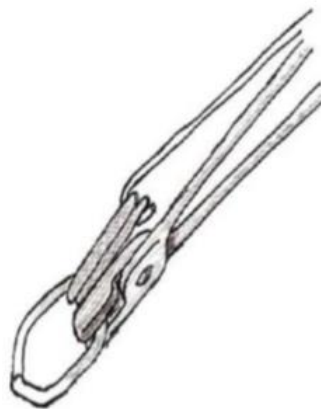

Figure 14: Holding the three links together for welding
6. Hold the assembled links using a simple hook to hold the two completed links out of the fire and out of the way while welding the third link. You can easily grasp the hook and tongs together in one hand, making this so much easier! (see figure 14)